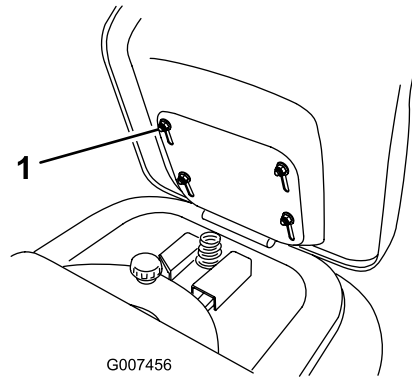

Figure 5
1. Raise the seat and loosen the 4 bolts (Figure 5).